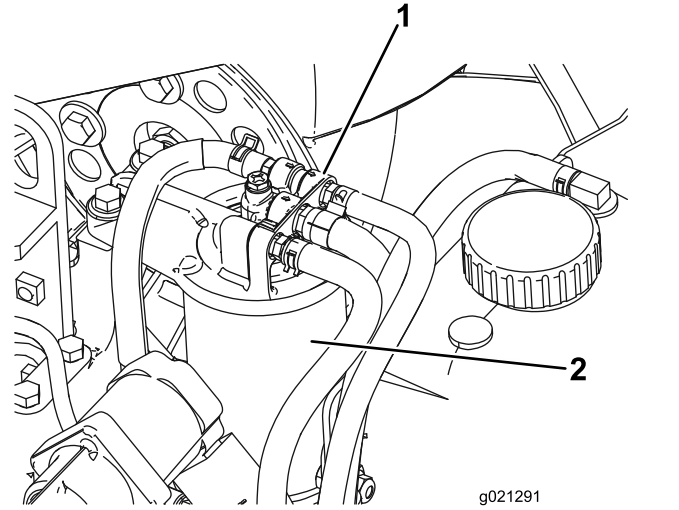

Figure 82
1. Clean the area around the fuel-filter head (Figure 82).
2. Remove the filter and clean the filter head mounting surface (Figure 82).